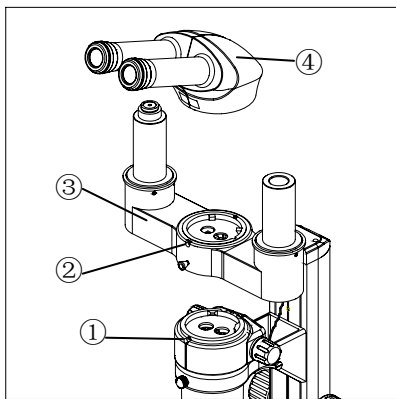
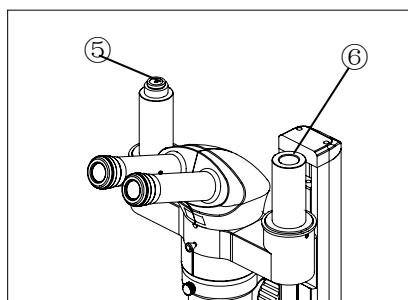
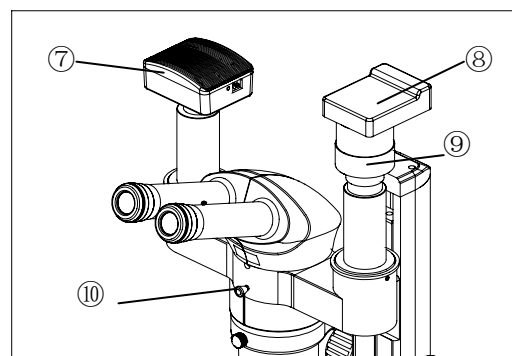

Fig.16
Fig.18
Fig.19
(Fig.16 ~Fig.19)
1. Loose the bolt (1) with provided hex wrench and remove the binocular head (4) away from the zoom body.
2. Mount the light splitter unit (3) onto the zoom body and fix it with bolt (1).
3. Mount binocular head (4) onto the light splitter unit with bolt (2), as shown in Fig.18.
4. Mount the camera head (7) into the C mount (5) (both 1× and 0.5× available) of the light splitter unit. Mount the adapter (9) onto the transfer tube (6) on the splitter unit, as shown in Figure 18 and figure 19.
Pull out the light switching lever^⑩ to open the light path, as in figure 19.